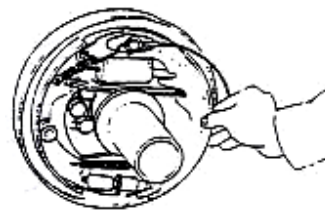

Figure 2-14
(4) Remove the main and auxiliary brake shoes. And also remove the regulator and the regulator spring. See figure 2-14